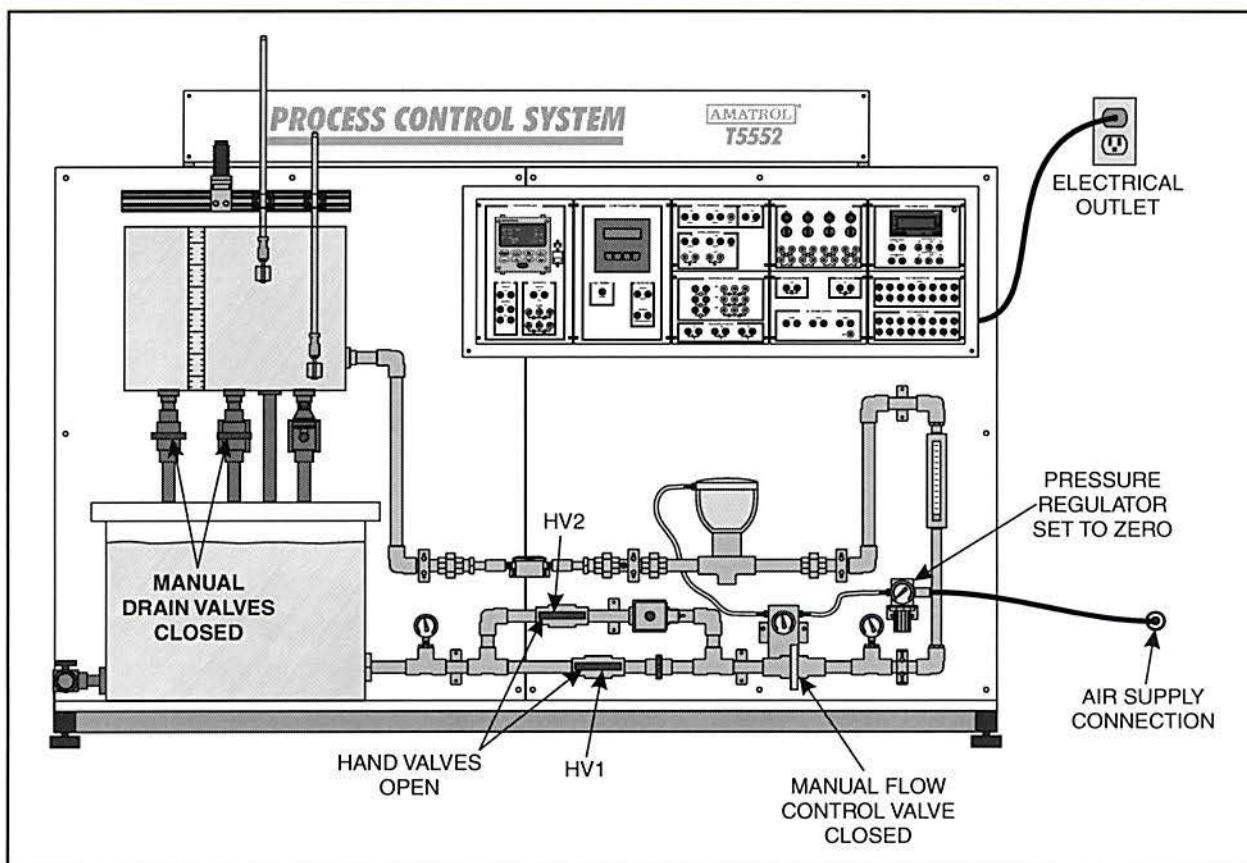

Figure 48. T5552 Setup for Manual Control
4. Perform the following substeps to set up the T5552 for manual control, as shown in figure 48.